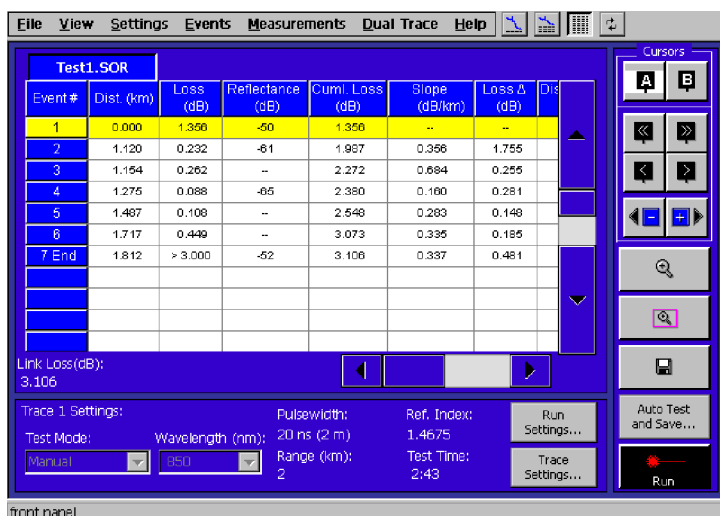

**Figure 2-8: Compare the amounts of loss and reflectance in each of the events in the sample file Test1.SOR**
- Switch to Event Table Only view to compare the event loss and reflectance values of each event. (Select **View > Event Table Only**.) You will see something similar to Figure 2-8. You can scroll to the right to view a description of each event in the Event Notes column.